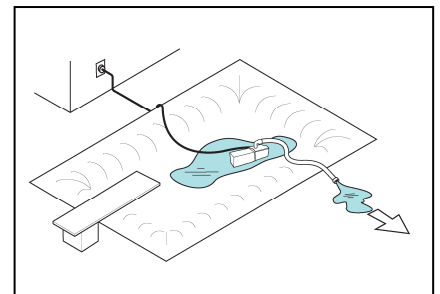

Fig. 4
4. Route the garden hose so that it discharges away from the pool. When the water is pumped off the cover, the pump will shut off. There will always be a small amount of water left on the pool cover. When rain occurs, the pump will turn on automatically. Fig. 4